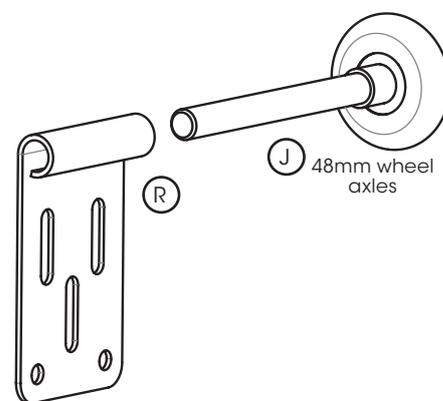

Fig: 2.2.5
- h) Insert the appropriate wheel axle (J) (standard, extended or smooth track) into the top hanger (R) Fig 2.2.5.